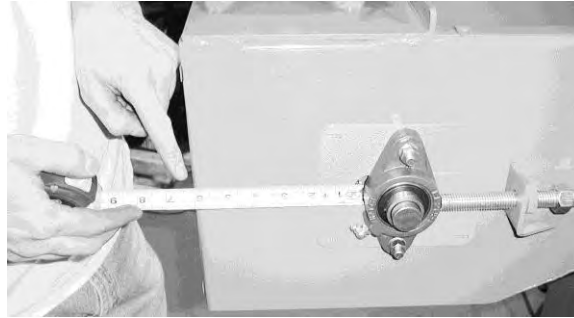

Figure 11: Checking for Headshaft Skew
- Measure the distance between the bearing and the front edge of the sidewall (Figure 11) to verify that the headshaft is not cocked.